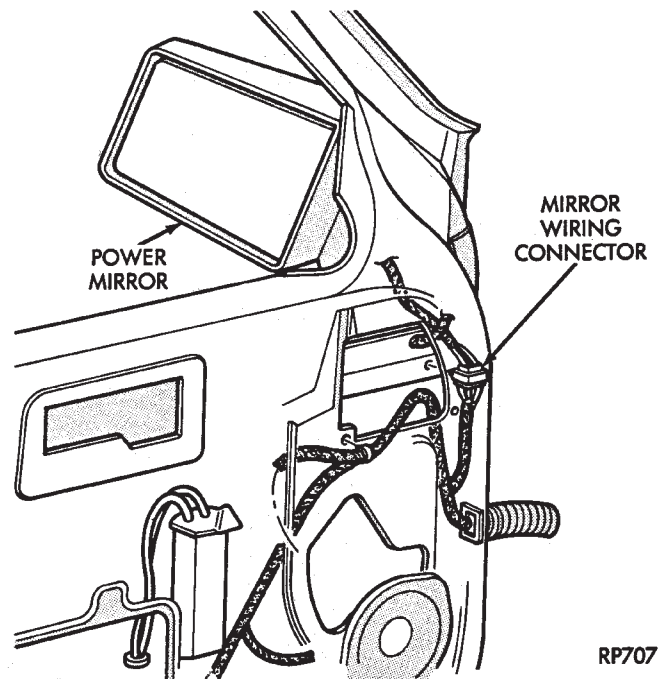

Fig. 14 Power Mirror Wiring — AG Body
- (1) Remove door trim panel.
- (2) Disconnect mirror wiring at connector (Figs. 14 and 15).
- (3) Remove plugs used to conceal mirror mounting nuts.
- (4) Remove mirror mounting nuts and release mirror from door.
- (5) For installation, reverse above procedure. Test mirror for proper operation before installing door trim panel.